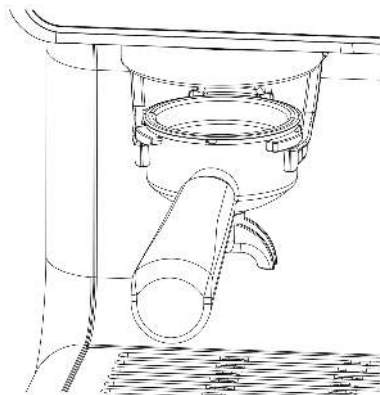

Fig. 5:
5. Som vist i Fig. 5, plasser portafilteret i pulver-mottakerholderen.